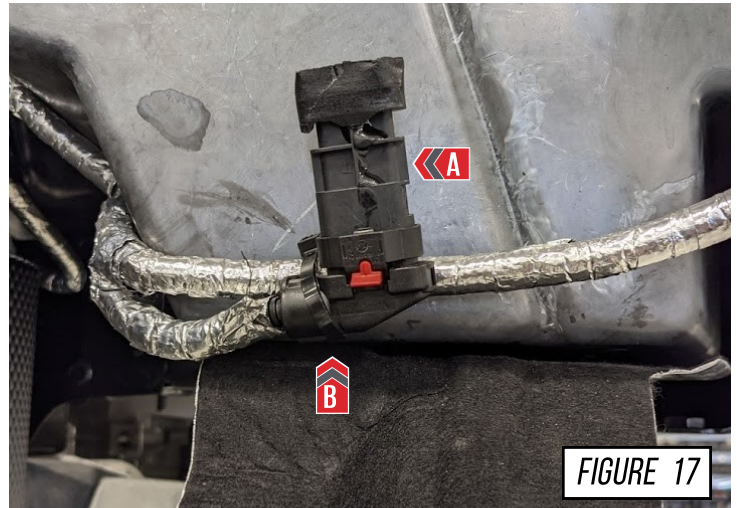

FIGURE 17
Using the supplied zip tie to secure it into place, as shown at (B) in **Figure 17**.